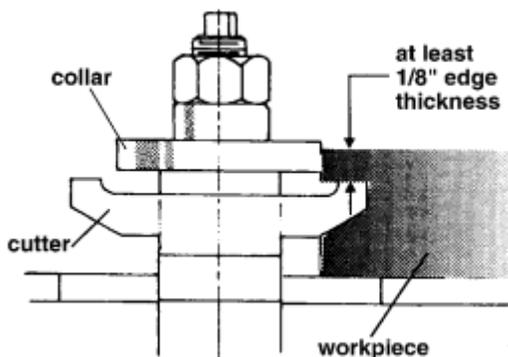

Fig. 33
**Note:** Since the collar requires at least 1/8" of surface edge to ride against, the entire edge cannot be shaped as shown in Fig. 33. The added use of a pattern, however, permits the shaping of the entire contour edge.